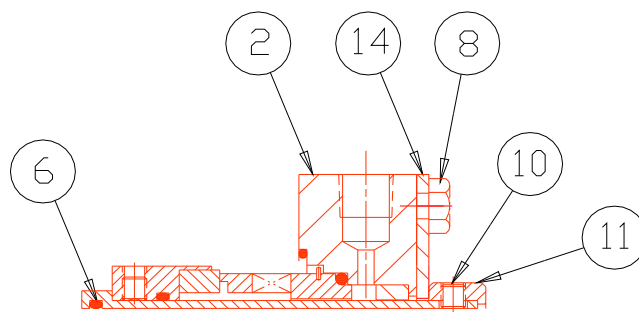

Figure 2 – Mechanical Cartridge Seal
- b. Loosen bolts (8).
- b. Position setting plates (14) (two each) into slot between drive collar (11) and seal flange (2).
- c. Tighten bolts (8).
- e. Loosen set screws (10).
- f. Remove the four bolts ((9) on 800J or (75) with washers (80) on 550J) on pump assembly drawings (figures 2 and 3).
- g. Remove seal cartridge assembly (64) from pump shaft (34).
- 4) If pump is an 800J, Remove nuts (26) and washers (79) from covers (2 & 3). Remove covers (2 & 3) and gaskets (5). If pump is a 550J, remove cover (63), cap screws (9), and washers (80) along with gaskets (5).
- 5) Remove capscrews (8) from each cover (2). Remove covers (2) and o-rings (6).
- 6) Remove capscrews (20), washers (21), shims (18) and cover (19) from outboard bracket (12).
- 7) Remove both outboard bracket (12) & inboard bracket ((78) for 550J or (73) for 800J) from housings (11). This is done on 550J by removing cap screws (16) along with nuts (8) and lock washers (15) from each bracket. This is done on the 800J by removing cap screws (16) and washers (15).
- 8) If bushings (45) require replacement, remove spring pins (17) and slide bushings (45) from brackets (12, 73 or 78).
- 9) Remove idlers (40, 41) by grasping inboard and outboard ends of idlers (40, 41) and rotating each idler to remove all four idlers from housings (11). Slide power rotor (34) from housings (11).
10. Remove both housings (11) from pump case (1) by removing cap screws and washers ((13) and (14) respectively on 800J pump or (13) and (15) on 550J pump).
11. If collar (42) requires replacement, remove setscrew (43) from collar (42) and remove collar (42) from power rotor (34).